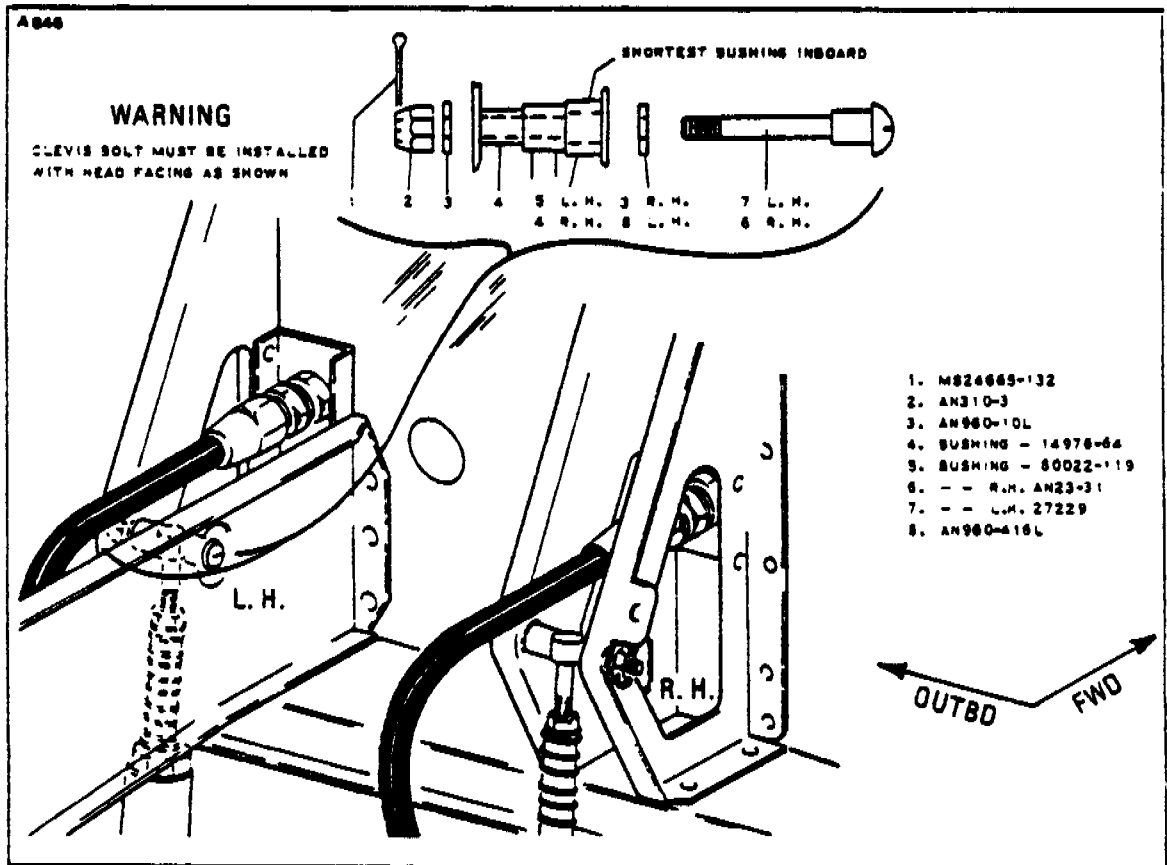

FIGURE 6-34A. BRAKE CYLINDER INSTALLATION
6-93. Installation Of Brake Master Cylinder. (Refer to Figure 6-34A.)
a. Position the cylinder in its mounting bracket and insert the upper mounting clevis bolt from the inboard side of each cylinder as shown in Figure 6-34A, and secure with washer, nut and cotter pin.
The upper mounting clevis bolts must be installed as shown in Figure 6-34A.